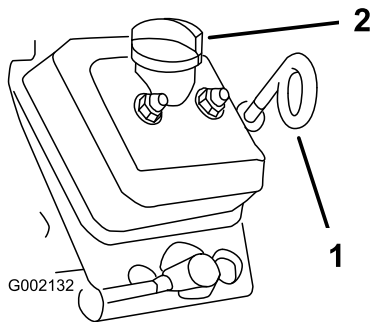

Figure 20
3. Use a rag to clean around the oil dipstick and fill cap (Figure 20) so that dirt cannot fall into the dipstick tube or oil-filler neck and damage the engine.
4. Remove the oil dipstick and wipe the end clean (Figure 20).
5. Slide the oil dipstick into the dipstick tube fully seating it (Figure 20).
8. Install the filler cap; refer to Figure 20.
9. Install the oil dipstick and firmly seat it (Figure 20).